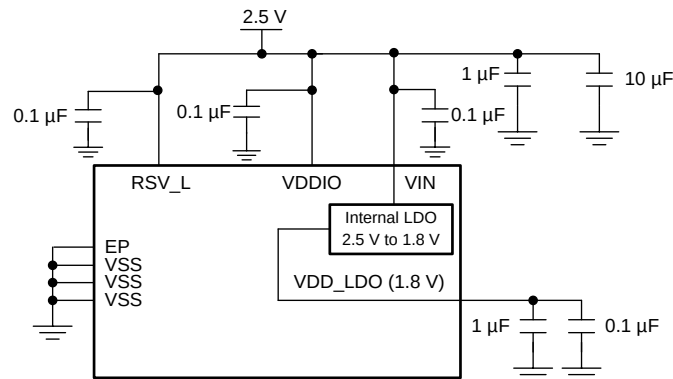

Figure 24. Single 2.5 V Supply Mode - Compatible with LMH1219
- **Single 2.5 V Supply Mode:** This mode offers ease of use and pin compatibility with the LMH1219 (11.88 Gbps Ultra-HD Adaptive Cable Equalizer with Integrated Reclocker). The internal circuitry receives power from the on-chip 1.8 V regulator. In this mode, 2.5 V is applied to VIN, VDDIO, and RSV_L. This mode supports SPI or SMBus serial interface. See Figure 24 for more details.